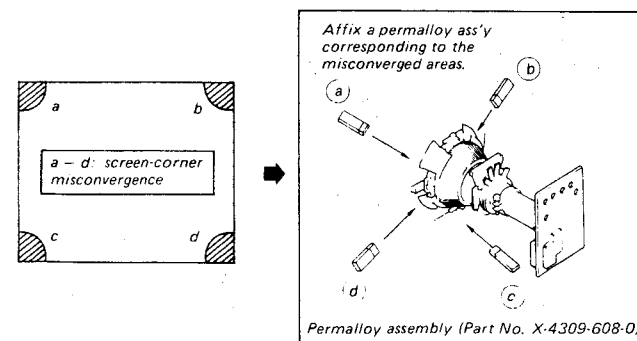

Fig. 3-10
4. Correct with Permalloy if the peripheral convergence cannot be corrected. (See Fig. 3-10.)